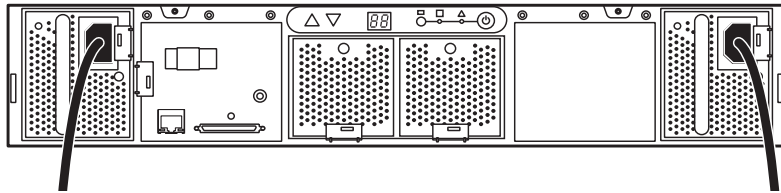

Figure 14 Connect the disk array power supplies to an AC power source
6. Connect the AC input socket of each disk array power supply to an AC power source using the power cables provided (Figure 14).